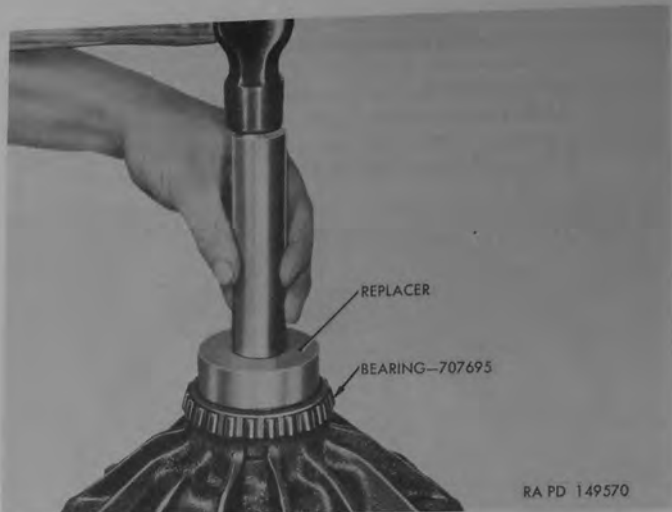

Figure 143. Installing differential side bearing with replacer 41-R-2381-220.
- (3) *Installation of differential side bearings.*—Install cone of bearing assemblies (B) and (U) in case and case cover, using replacer 41-R-2381-220 in manner illustrated in figure 143. Bearing must seat solidly against shoulder of case and case cover.